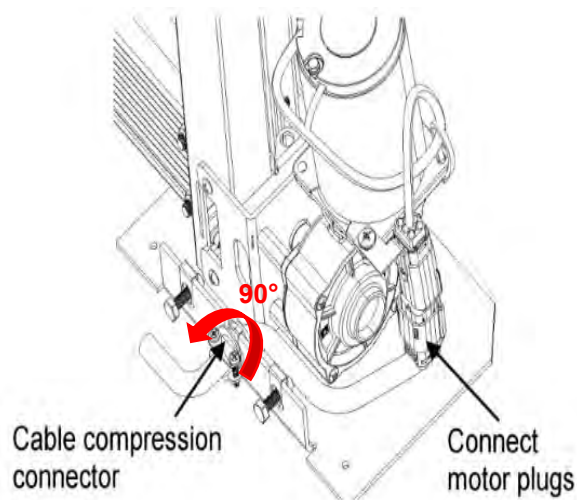

Figure 94
13) Locate the short end of the cable, which can be identified from the metal compression connector near the end of the cable. Make the connector go through the center hole on the back of the motor jack's base plate. Connect the cable to the motor harness and tighten the screws of the compression connector onto the base. **The screws of the compression connector should be oriented horizontally.** You might have to rotate the connector as shown on Figure 94. Let the remainder of the cable pass near the U-frame. The electrical hook-up will be explained further.